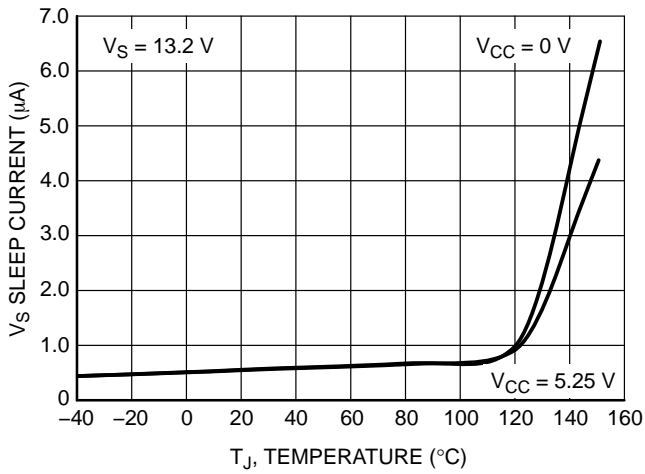

Figure 4.  $V_S$  Sleep Supply Current vs. Temperature
5. For temperatures above  $85^{\circ}\text{C}$ , refer to Figure 4.
5. For temperatures above 85°C, refer to Figure 4.